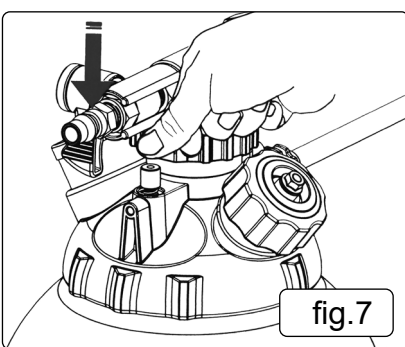

fig.7
4.1.7. When the pressure is too high, press the Release Pressure Button. (fig.7)